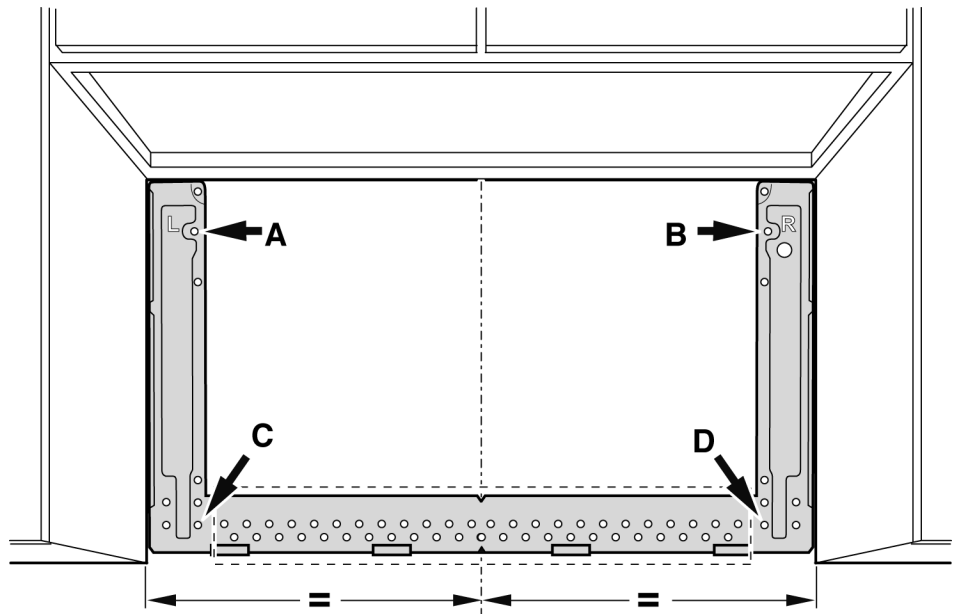

Figure 1 – Flat or frame recessed bottom cabinet
2. Use the mounting plate as a **template** and place it on the wall, making sure that the tabs are touching the bottom of the cabinet (Figure 1) or the level line (Figure 2).